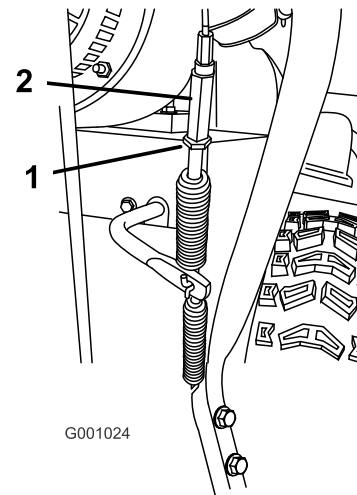

Figure 38
5. Loosen the jam nut (Figure 38).
6. Loosen or tighten the turnbuckle that adjusts the tension on the cable (Figure 38).